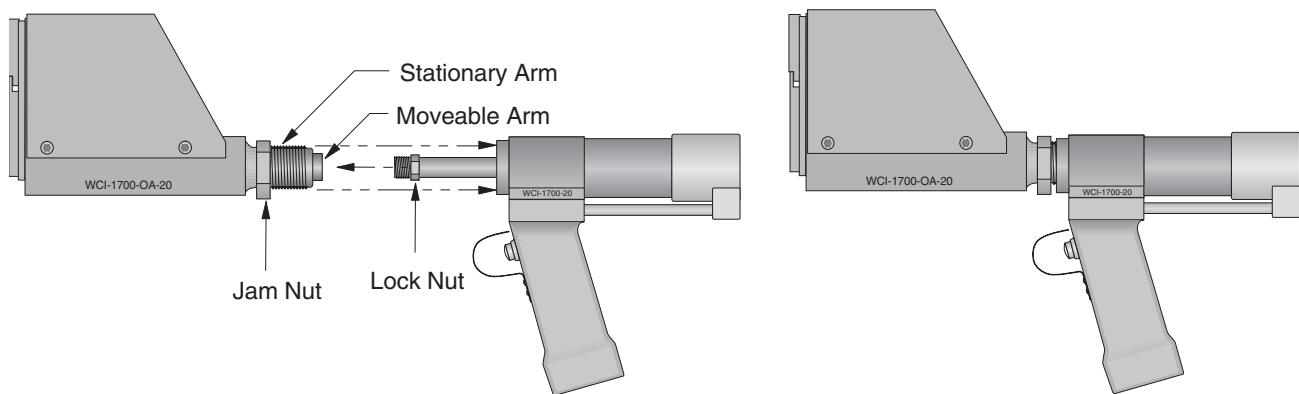

Figure 4-02 — Installing Offset Adapter on Puller Gun
- 4.6.2.4 Thread the offset adapter moveable arm onto the puller unit piston rod. Ref. Fig. 4-02.
- 4.6.2.5 After ensuring that the moveable arm is properly installed onto the piston rod, thread the offset adapter housing into the puller unit and lock in place with the jam nut. Ref. Fig. 4-02.